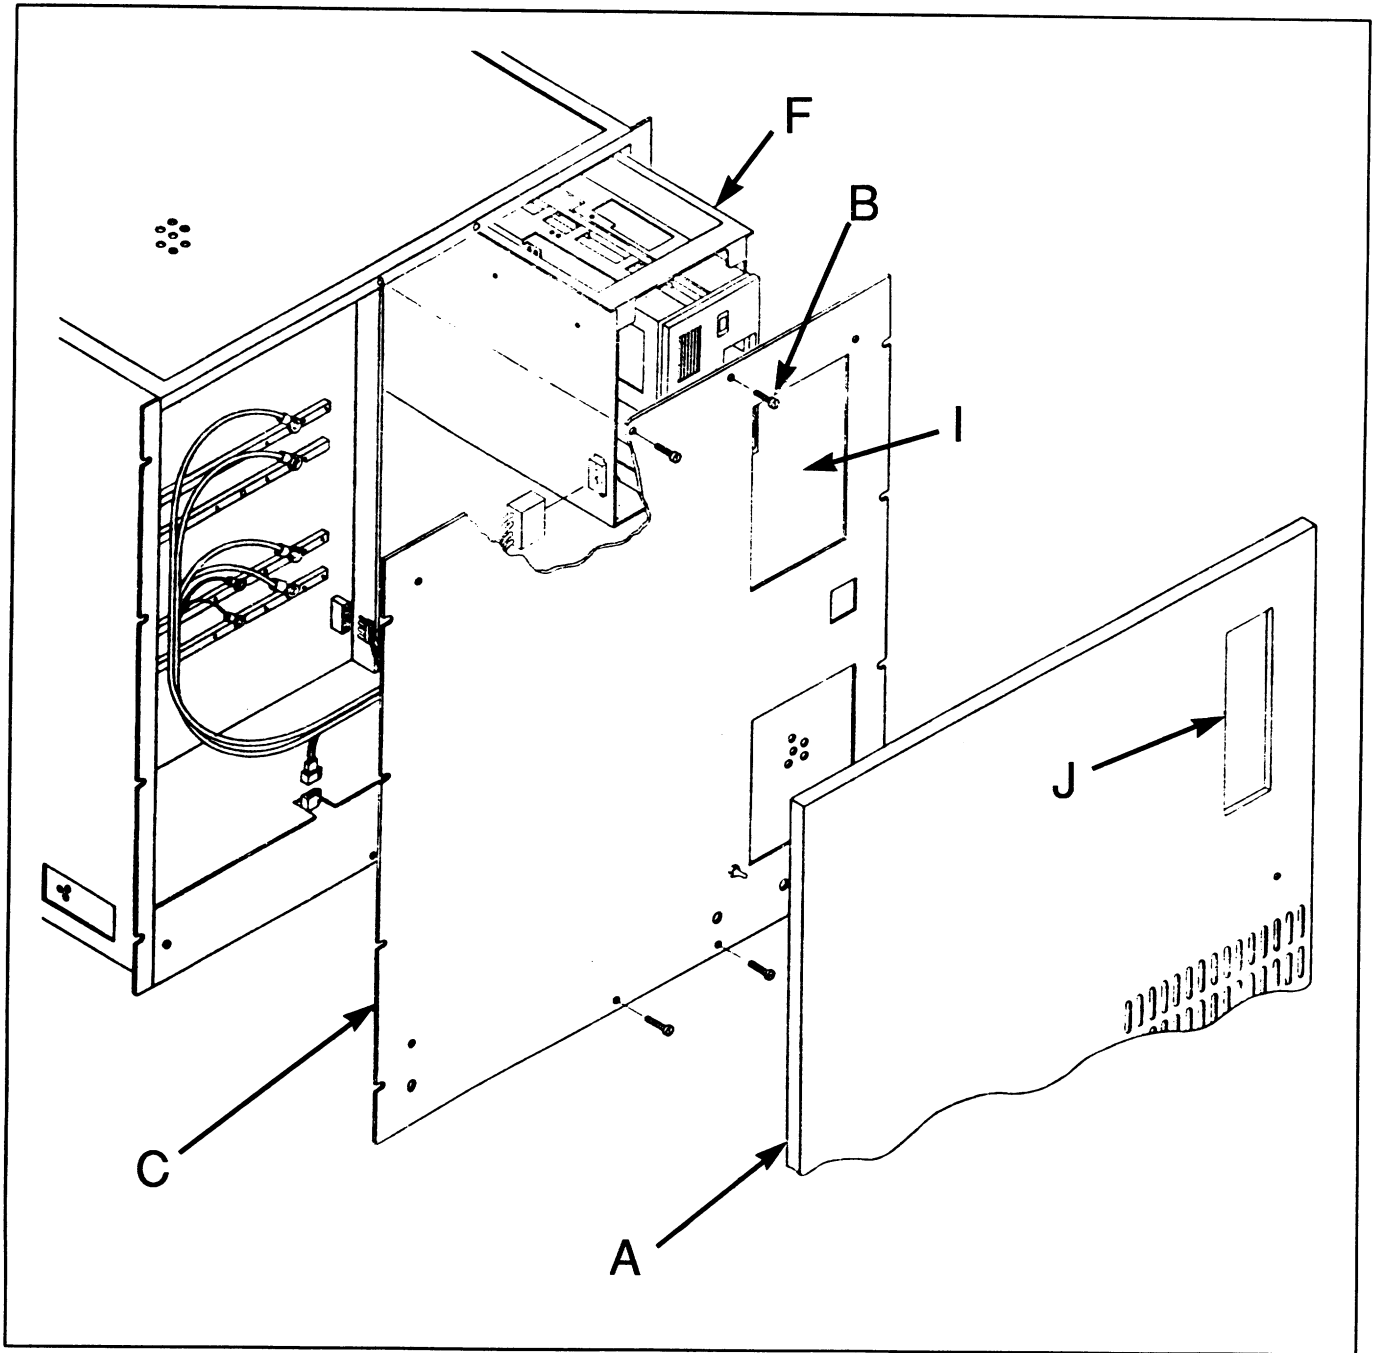

Figure 2-1 Front Panel Removal
The tape drive option assembly is installed in the Sun-3/180 workstation CPU enclosure. Installation sequence is shown in the exploded views of figures 2-1 thru 2-5.
1. Refer to figure 2-1. Front bezel panel A covering the 3/180 CPU enclosure is held in place by snap fasteners. Remove the front bezel panel A by prying outward with a blade screwdriver.
7. Refer to figure 2-1. Insert the tape drive option tray **F** into CPU enclosure above power supply shelf. Slide tape drive option tray **F** into CPU enclosure.
10. Refer to figure 2-1. Remove filler plate I from front shield plate C.
1. Refer to figure 2-1. Front bezel panel A covering the 3/180 CPU is held in place by snap fasteners. Remove the front bezel panel A by prying outward with a blade screwdriver.